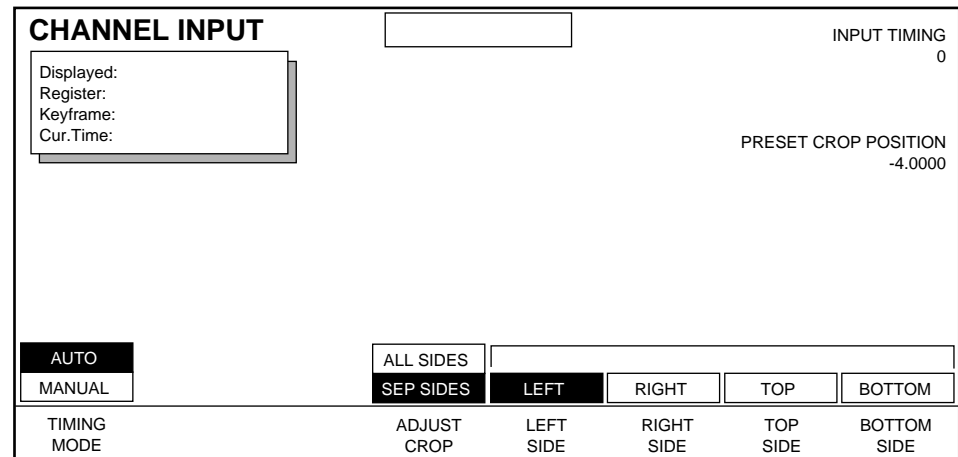

Figure 3-23. Channel Input Alignment Menu
- From the System Alignment menu, press CHANNEL INPUT > to go to the Channel Input menu (Figure 3-23).